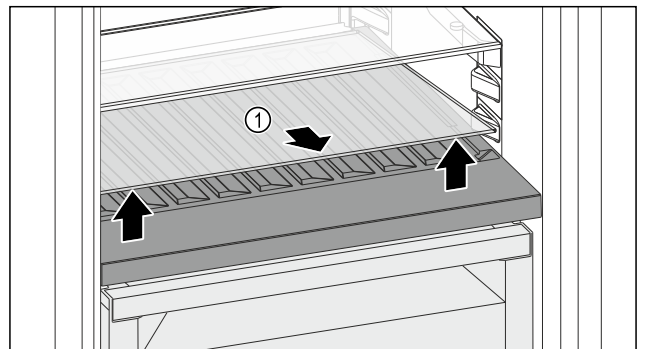

Fig. 102
- Lift the glass shelf Fig. 102 (1) at the front and remove.
- Store the glass shelf Fig. 102 (1) in a safe place outside the appliance.
- Insert the glass shelf (2) under the variable bottle rack.